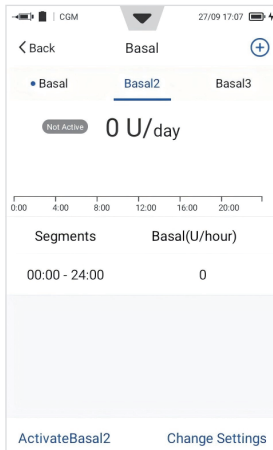

Figure 79
- **Select basal:** Click Basal name, as shown in Figure 79.